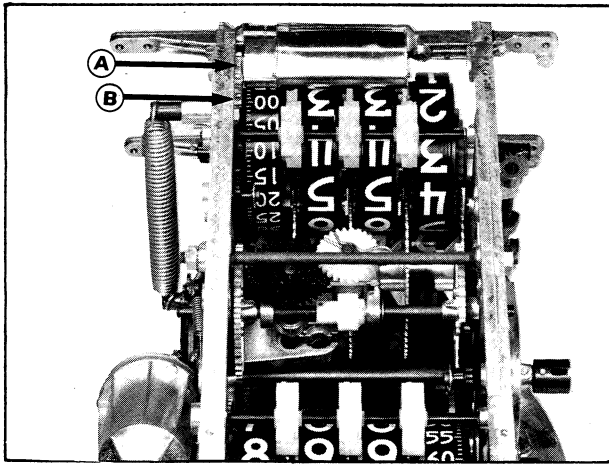

Figure 52.
1. Money or Quantity Totalizers do not Record (Figure 52).